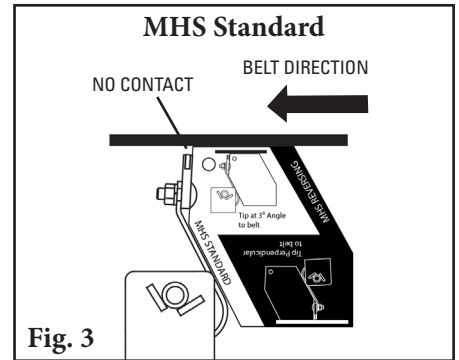
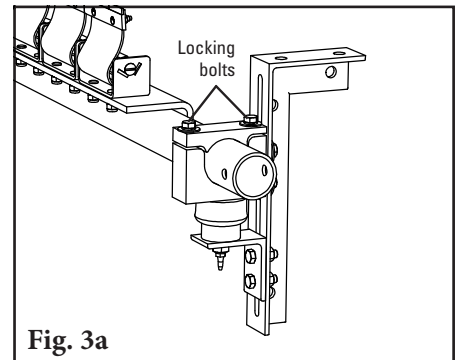

Fig. 3
Fig. 3a
For MHS Standard: Rotate the pole until the tips align with the white “MHS Standard” side of the tip setup gauge provided (Fig. 3a).
3. **Set blade angle.** Centre the pole/blades on the belt. Rotate the pole until the tips are perpendicular with the belt (Fig. 3). Tighten the two locking bolts on each torsion pole mount to lock the pole in place (Fig. 3a). There should be no blade-to-belt contact while locking the pole in the correct position. If contact occurs, double-check the dimension from Step 1.